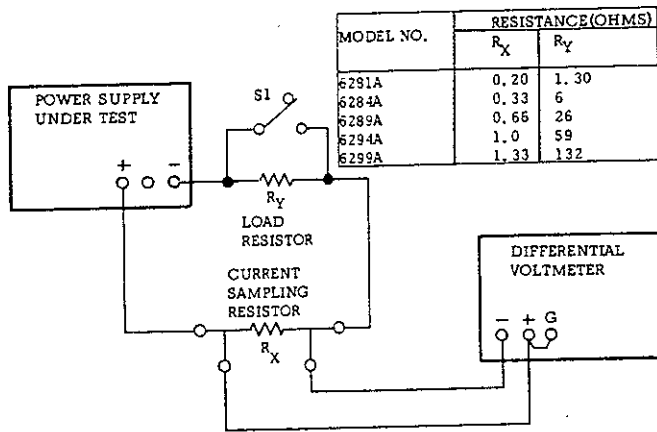

Figure 5-4. Output Current, Test Setup
- Connect test setup shown in Figure 5-4 leaving switch S1 open.
- Connect test setup as shown in Figure 5-4.
a. Utilize test setup shown in Figure 5-4 leaving switch S1 open throughout test.
a. Use test setup shown in Figure 5-4, except connect AC voltmeter across sampling resistor instead of differential voltmeter.